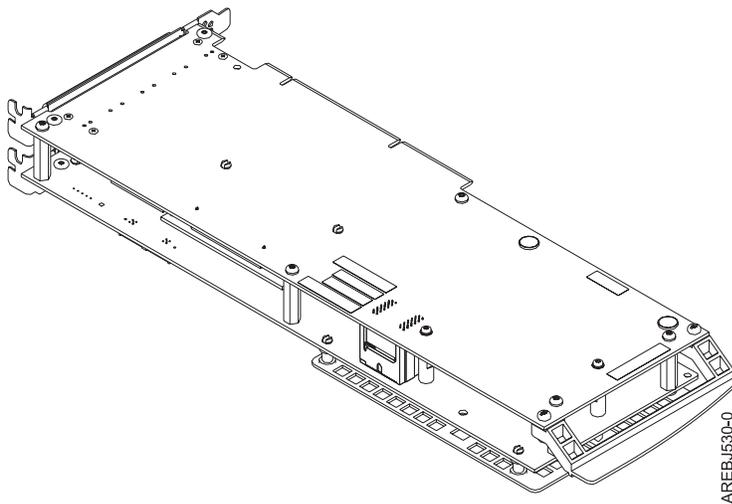

Figure 23. 572F/575C card set adapter
2. Place the 572F/575C card set adapter on an ESD protective surface and orient it as shown in Figure 23.